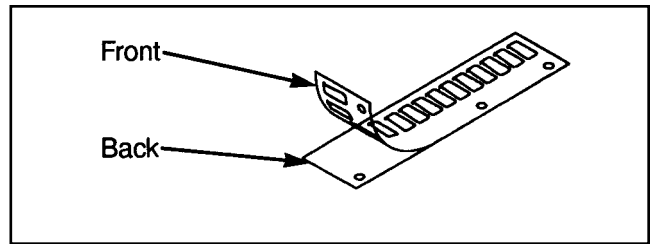

Figure 18
- B. Place weight plate decals on weight plates according to steps listed below and Figures 18 and 19.